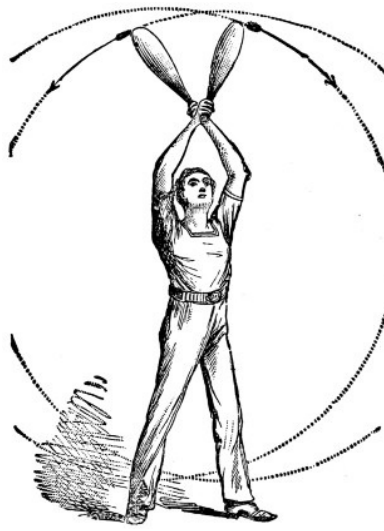

Fig. 13
*Exercise 11 (Fig. 13).*—This is not very difficult to perform. Keep the arms straight, and beware of a collision. The clubs are swung in a circle across and in front of the body, passing one another twice in their course—once when above the head (as in the figure) and again in front of the legs.